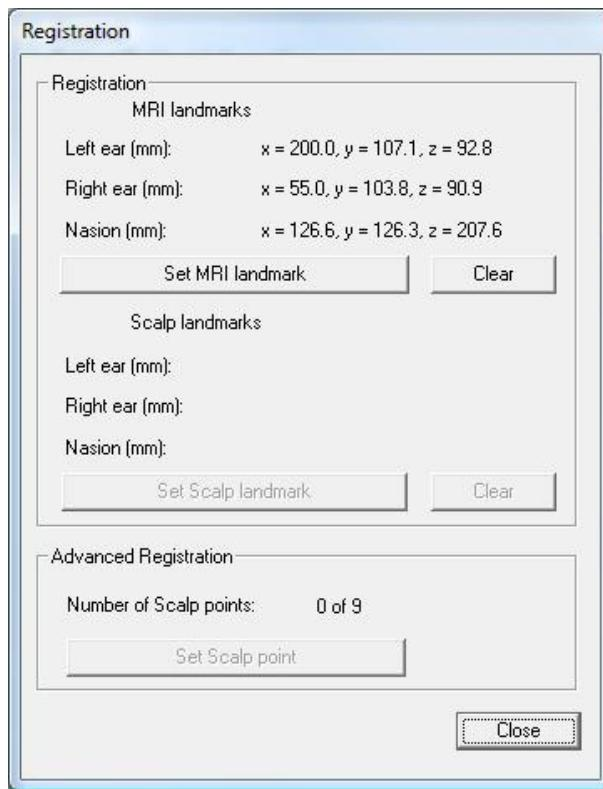

Fig. 70. Registration-dialog after MRI landmarks have already been registered
1. Ensure that the **Registration**-dialog is open and contains the MRI landmarks (as in Figure 70).